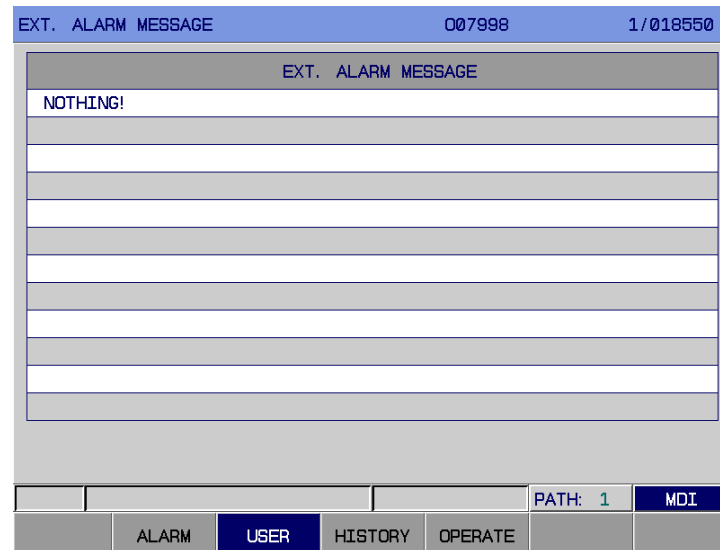

Fig. 3-7-2
2. User interface Enter the external alarm interface by 【USER】 softkey in <ALARM> interface, refer to the Fig. 3-7-2: